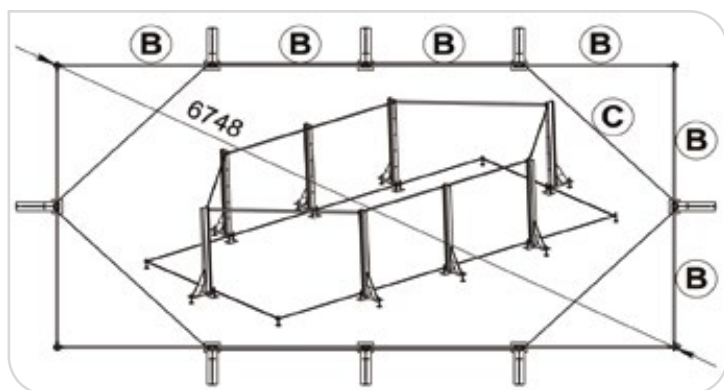

Figure 8 – Metallic structure - pool 3 x 6
After correctly positioning the first layer of rebar (*Figure 3*) set out the metallic posts required to assemble your pool (*Figure 8*). Make sure that you fit them with jacks first (*Figure 4*). These posts are joined together at the bottom with flat bars fastened by two screws (bag A).
- that the pool diagonals measured at the axis of the corner jacks are equal (*Figure 8*).